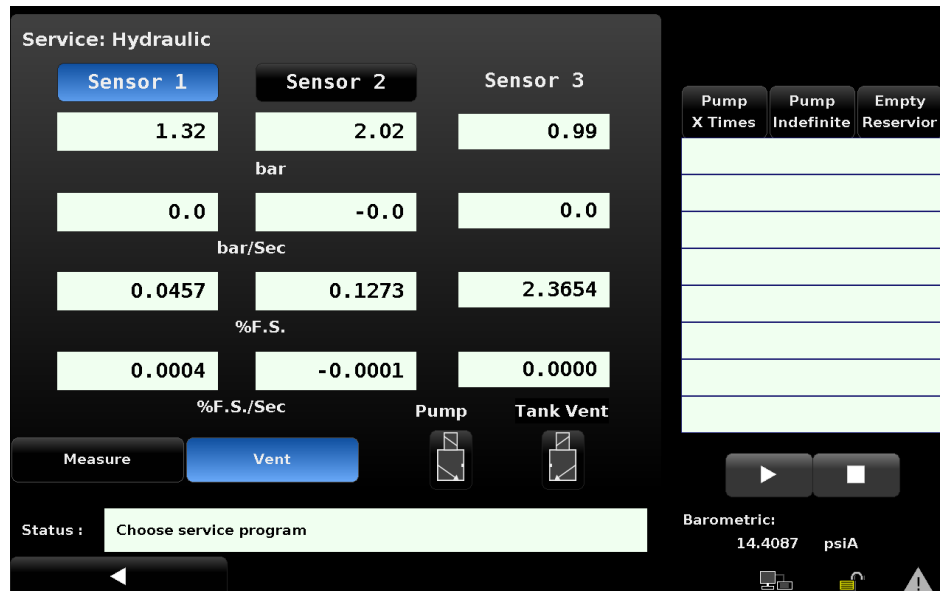

Figure 5.2.4 Hydraulic Service App
5. Select the Measure button and then press the pump button. The pump within the CPC8000-HM will fill the volume with fluid. A mixture of air and liquid will leak out the loosened fitting. [Figure 5.2.4]